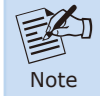

Figure 4-3: Web Main Screen of IGS Industrial Managed Switch
3. After entering the password, the main screen appears as Figure 4-3.